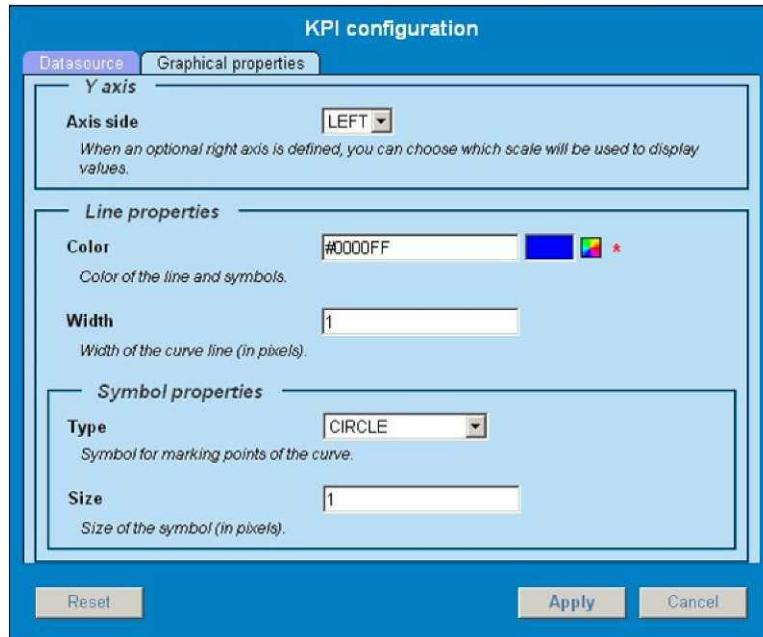

Figure 20: Graphical Properties Tab
3. Select **Graphical properties** tab to open this screen shown in Figure 20: Graphical Properties Tab.